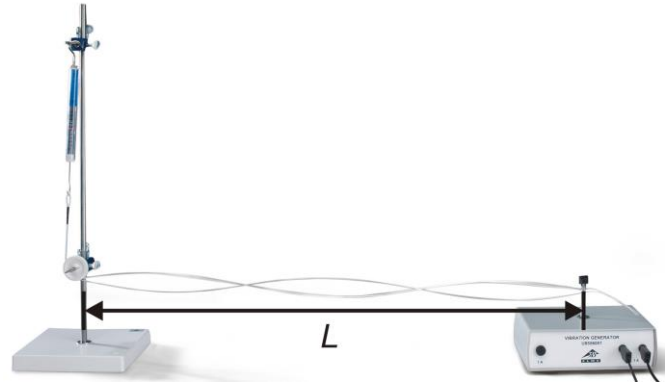

Fig. 4b: Illustration of the (effective) length  $L$  of the stretched rope
- Set up the distance from the stand and pulley to the vibration generator in such a way that the (effective) length of the rope  $L$  (Fig. 4b) is about 90 cm. Stretch the rope taut with the help of the dynamometer ( $F \approx 0.6$  N) but only secure it gently for now with the help of the knurled screw on the vibrating stem.